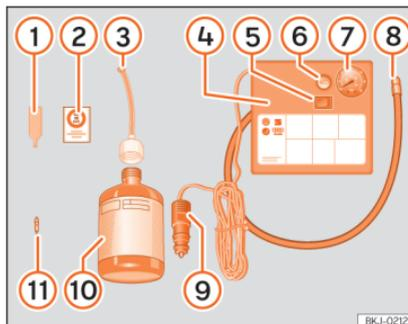

Fig. 32 Standard representation: anti-puncture kit contents.
»» **Fig. 32:**
- Unscrew the tyre valve cap and insert. Use the »» **Fig. 32** 1 tool to remove the insert. Place it on a clean surface.
- Shake the tyre sealant bottle vigorously »» **Fig. 32** 10.
- Screw the inflator tube »» **Fig. 32** 8 into the sealant bottle. The bottle's seal will break automatically.
- Remove the lid from the filling tube »» **Fig. 32** 3 and screw the open end of the tube into the tyre valve.
- Place the insert back into the tyre valve using the tool »» Fig. 32 ①.
- Screw the compressor tyre inflator tube »» Fig. 32 ⑧ into the tyre valve.
- Check that the air bleed screw is closed »» Fig. 32 ⑥.
- Insert the connector »» Fig. 32 ⑨ into the vehicle's 12-volt socket »» page 137.
- Turn the air compressor on with the ON/OFF switch »» Fig. 32 ⑤.
- Attach the sticker »» Fig. 32 ② to the instrument cluster, within the driver's visual field.
Screw the inflator tube »» Fig. 32 ⑤ again and check the pressure on the gauge ⑥.